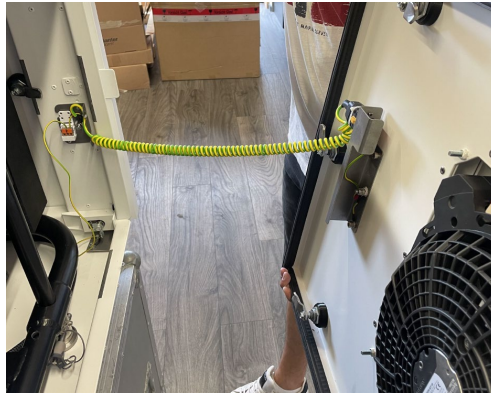

Figure 30: Connection of the grounding to the *Left Panel*
- Connect the spiral cable of the grounding from the nearby vertical pole to the connection terminal on the back of the *Left Panel* (Figure 30).